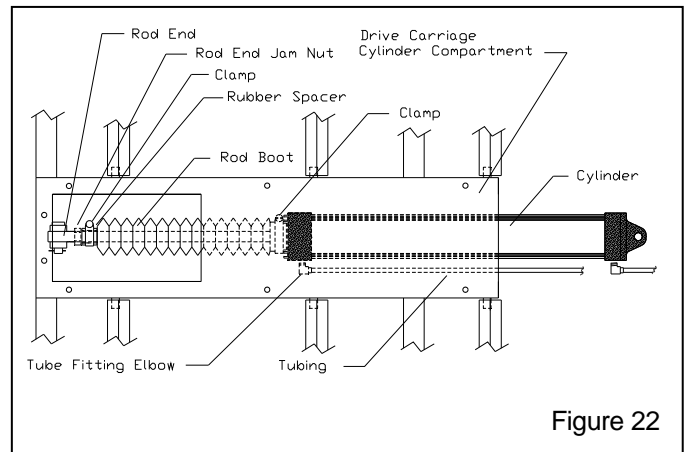

Figure 22
2.8.1.2 Using the rubber spacer and clamps provided, attach the rod boots to the front of the cylinders as shown in Figure 22.
2.8.1.4 Lay the cylinder assemblies into the cylinder compartments as shown in Figure 22.